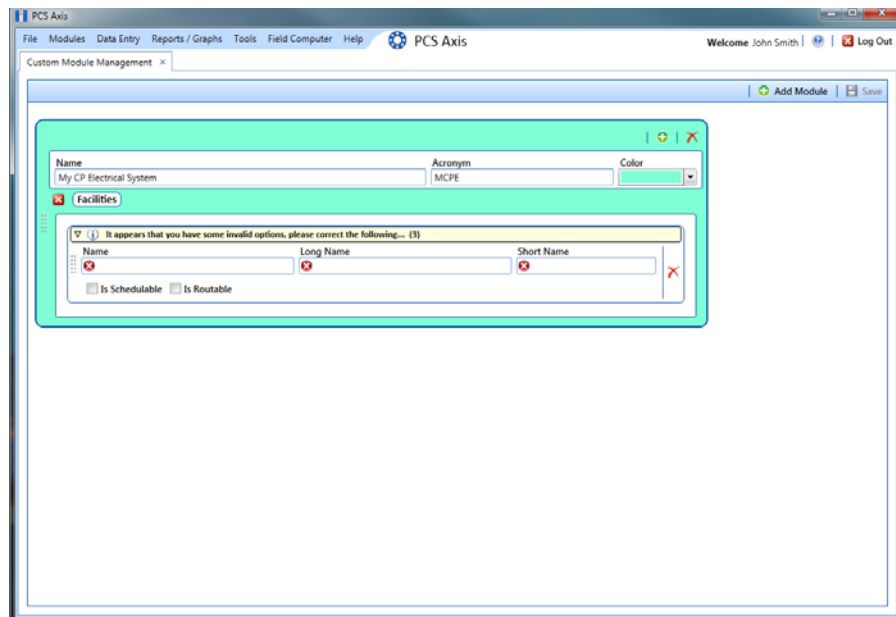

Figure 2-48. Custom Module Management
- 3 To set *Name*, *Acronym*, and *Color* properties for the user defined module, follow these steps (Figure 2-48):